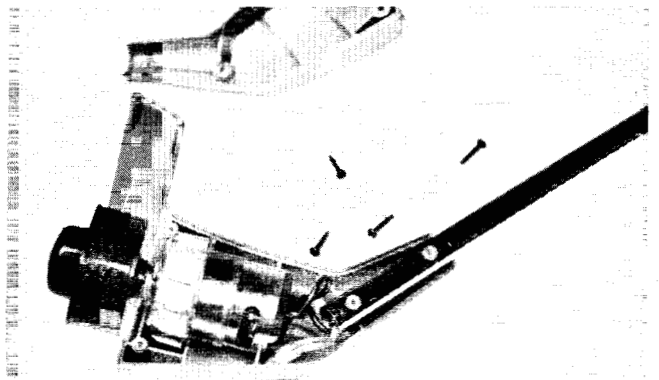

Figure 3.1
3.1 OPEN MOTOR HOUSING AND INSPECT MOTOR (fig. 3.1)